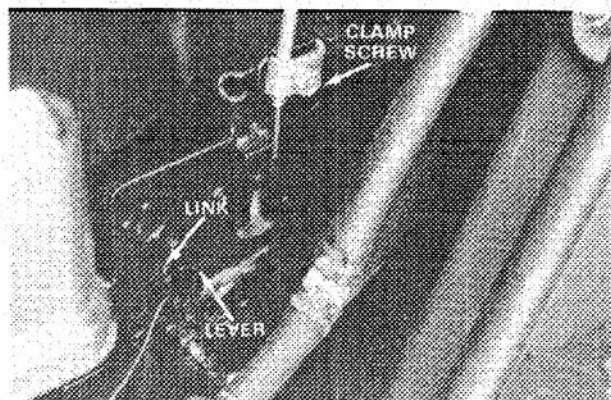

Figure 21
2. Move remote control lever to CHOKE position and check the position of the choke butterfly; it should be fully closed (Fig. 21).
3. Move remote control lever to FAST position. The butterfly should be in the fully open position (Fig. 21).
2. Loosen the throttle cable clamp screw (Fig. 21) and move the control cable casing and wire until the throttle lever touches link.